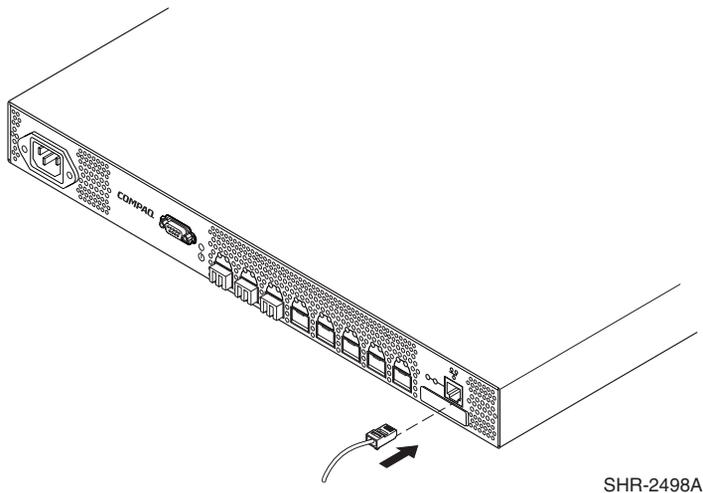

Figure 2-7: Connecting the Ethernet cable
2. Connect one end of an Ethernet cable to the SAN switch 2/8 EL Ethernet port, Figure 2-7.